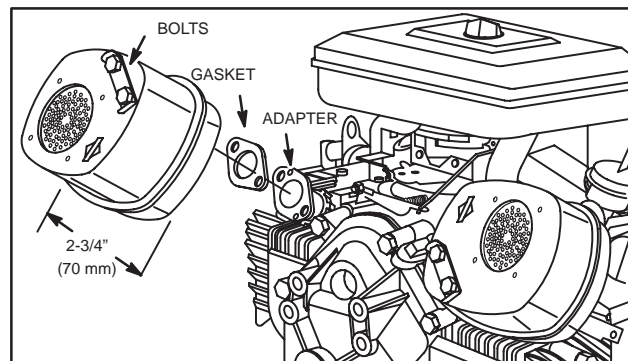

Fig. 25 – Install Small Lo-Tone Muffler
1. Install muffler with new gasket, two shoulder bolts and lock, Fig. 25.